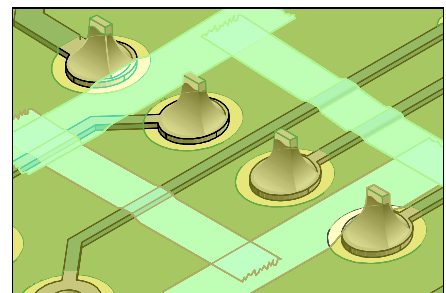

Figure 1: Apply High Temperature Tape to outline area for coating removal.
3. Apply masking tape or other masking material to protect the PC board surface as needed. (See Figure 1). Masking materials can consist of tapes, curable liquid masks or reusable stencils.